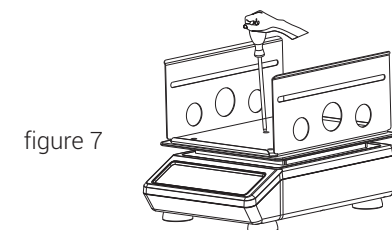

figure 7
1. Fasten Universal Attachment onto the platform with screws as shown in the figure 7.